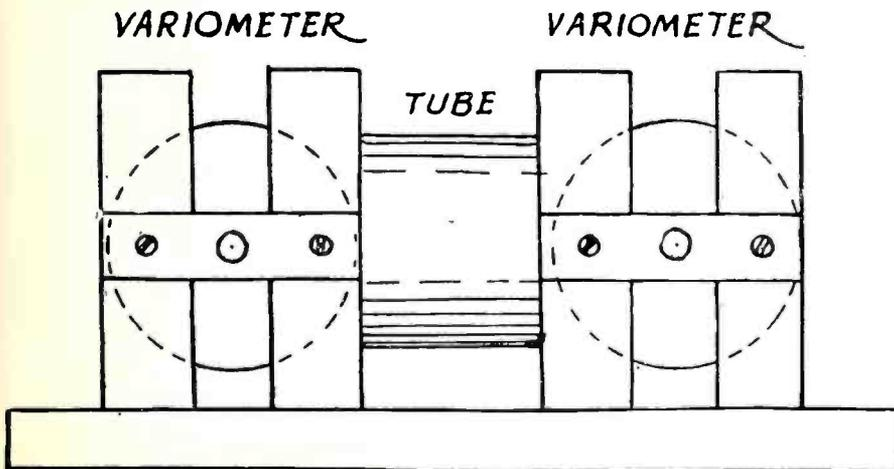
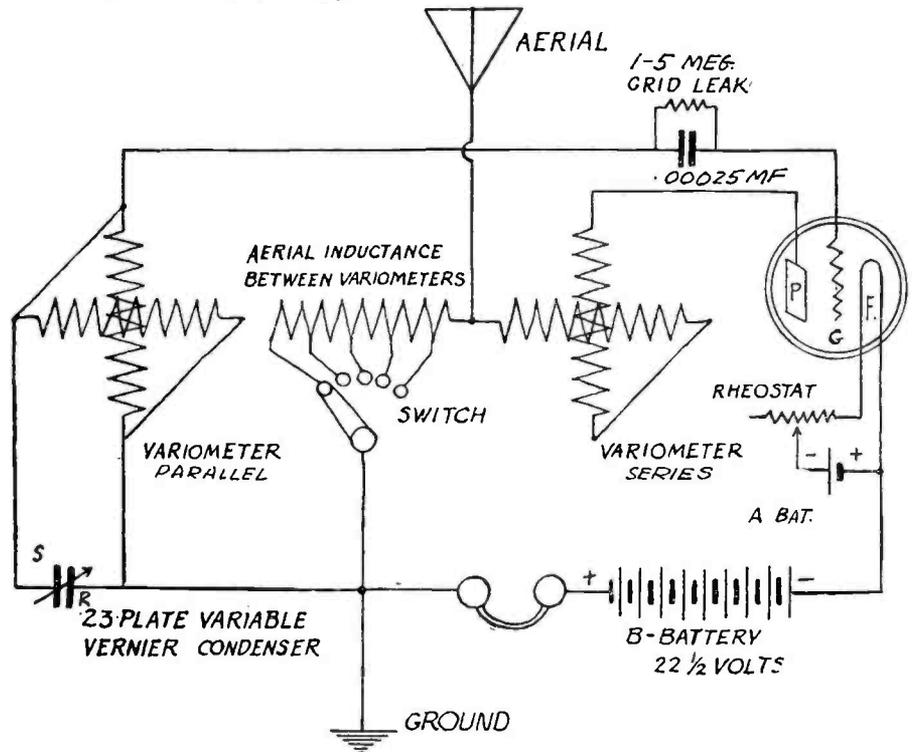

Figure 1
Figure 2—The wiring diagram of the Kopprasch receiver. Note the unusual connections of the variometers.
With the requirements above mentioned in mind, we will proceed to build a tuner that will incorporate all these desirable qualities. The circuit shown in Figure 2, after a close glance, appears to be a "conglomeration," as Jack Nelson would say, of the single circuit receiver, the Reinartz, Haynes and a few others. We can't call it either or any of them, so for purposes of easier reference we will call it the "Simplifgon." Simplify for the simpleness of it and the gon for old times' sake.
Figure 1 shows how the two coils constituting the primary and secondary are placed side by side and mounted on a cardboard mailing tube. About one-eighth inch separation is allowed between the coils, but this is not a critical value. A fixed condenser (K) is connected across the ends of the primary coil only to increase the natural wave length of the coil and to reduce its size. The number of turns in the primary and the corresponding size of the condenser (K) for a given wave length can be determined from the table of impedances just given. In this case, where both coils are of the same size, the transformer ratio is of course 1 to 1, but if a higher ratio is desired the number of turns in the secondary can be increased but the size of the primary remains unchanged as this depends upon the wave length.
twice the number of turns, or else employ one primary coil with two equal secondaries mounted on either side of the primary, the two secondary coils being connected in series. This construction is shown by Fig. 2 where the primary coil (PRI) is sandwiched in between the two secondary coils (SEC). The secondaries are connected in series by the bridge wire (M) and particular care must be taken so that the windings of the coils are in the same direction. If this is not done, then the coils will "buck" one another and no transformation will take place. The fixed condenser (K) is connected across the primary coil as usual, and the size of this coil and the condenser are determined by the wave length table as before. This is a very bulky and rather expensive construction.
A more compact winding, particularly adapted to wave lengths above 5,000 meters where many turns are required, is the "spool type" transformer of Figure 3. This spool contains three grooves, the center groove containing the primary winding while the two outer grooves contain the two halves of the secondary winding. The secondaries are connected in series as in Figure 2, and needless to say, all coils are wound in the same direction. No tuning condenser is used for the primary coil as the natural wave length of this coil alone is sufficient to bring the wave length up to 10,000 meters without the aid of the condenser. As each half of the secondary contains twice as many turns as the primary, it is evident that the total transformer ratio is four to one.
After these coils are wound, and the outer ends are fixed by a dab of sealing wax we can place them within a metal container or else place them within a metal tube for protection and shielding. The four ends of the coil are then brought out to the binding posts after the two secondary coils have been connected in series as shown by Figure 2. To connect the coils of the secondary in series, the inside end of one of the outer coils is connected to the outer end of the other outside coil. Care should be taken to
Figure 1. Back panel layout and working drawing of the Koppasch circuit. The remarkable results obtained with this receiver make it highly popular among broadcast listeners. The secret of this circuit lies in the manner of connecting the variometers, and the clever use of the antenna inductance.
Figure 1 shows how this mounting is accomplished, as does the accompanying sketch.
board tube, two inches long, and of sufficient diameter to allow the rotors of the variometers to clear it. Fifty-five turns of No. 20 DCC wire is wound on the tube, tapping at every eleventh turn. These taps are connected to the switch points as shown in Figure 2.
in parallel, that is, one end of the rotor winding is connected to one end of the stator winding as shown under "parallel" in Figure 3. The connections are made at the points indicated at C. A 23 plate vernier variable condenser is connected across the terminals C and C as indicated in Figure 2, on the wiring diagram.
After you have assembled this list of apparatus, lay the panel out according to the sketch shown in Figure 1. The tuner shows how simple the general layout of the set is. If you wish, suit your own individual taste in the matter, so long as the foregoing requirements are kept in mind.
in Figure 1. With another piece of waxed string, fasten this coil to the wooden shaft or stick which has been boiled in paraffine, as also shown. This completes coil A.
To wind coils B and C is a little harder. Procure 14 steel pegs (finishing nails without heads will do) and set them in a 4 inch circle as shown in Figure 3. Starting at peg No. 1, with the remaining No. 16 DCC wind around peg No. 4, skipping 2 and 3, from 4 to 7 inside of 5 and 6 and so on as shown. Coil B should have from 45 to 50 turns. This number will vary, due to the fact that hand wound coils cannot be made uniform. In all probability some of the No. 16 wire will be left over, and this can be slipped into spaghetti tubing for wiring. The coil is bound up in the same manner as was coil A, with the wax thread, and is supported by winding the wax thread firmly around a heavy piece of cardboard and mounting the entire coil and cardboard on two small blocks as shown at B, Figure 1.
Connections to the two movable coils are made with the flexible lamp cord, permitting the coils to be rotated. Wire the set according to the diagram shown in Figure 2, or, if you choose, Figure 1.
Figure 1—Close-up of the parts used in making the shunt condenser for boosting the tuning range of the variometer. Paraffined paper may be used with as good results as obtained with mica sheets.
Figure 1 illustrates how the parts for the little shunt condenser are cut and put together. This is condenser "C" on the circuit diagram, and it is needed to raise the wave length range of the variometer, which now is to function as the secondary all by itself. If one hasn't facilities for drilling the copper plates, which are cut to a diameter of
Figure 2 illustrates the method of mounting the antenna coil. It is important to determine which side of the variometer is to be connected to the grid, and then to mount the coupling coil at the OTHER end, so that it will be at the "low potential" end of the variometer. This insures high voltage applied to the grid. Moreover, if the variometers are of a type that use the front shaft as a connection, this must be the filament end, or there will be some hand capacity effect. The coupling coil is made of eight turns of the bell wire, wound first on a tubing or other cylinder about four inches in diameter and affixed by a couple of tacks to the side of the variometer. Two strips of tape hold the coil in shape.
Figure 2—View of the antenna coupling coil in place alongside the variometer. Bell wire, seven turns, form the coil, and it is held in position with the aid of some strips of tape and two little tacks.